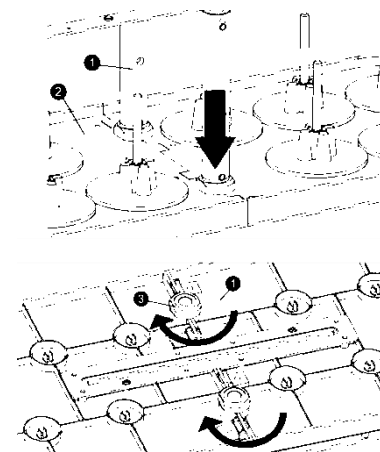

Figure 16
6. Turn the thread rack around, add the lock nuts previously removed, and tighten them. See Figure 16.